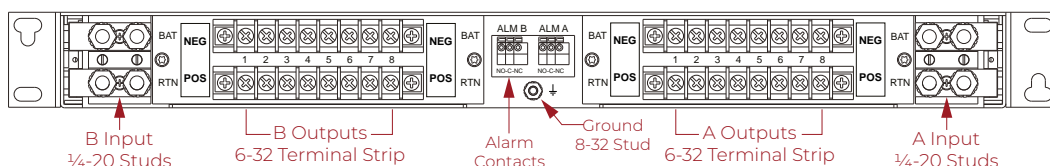

Figure 4. Back Panel View
9.1 Back View. Figure 4 shows the back of the DCPDU1B distribution panel. Inputs are at the left and right ends of the back panel. Side B outputs are at two rows of barrier terminal strips on the left side, and side A outputs are the same on the right side. At the center of the back panel are two spring clamp terminal blocks for the Form C relay contact outputs.
9.4 Output Connections. Output connections for A and B loads are shown in Figure 4. There are 8 sets of barrier terminal strip connections for each side, A and B. The connections are numbered to correspond with the numbers of the front panel breakers. The upper strip connections are from the battery through the breakers; the lower strip connections are the returns. Side B is on the left and side A on the right, as shown.